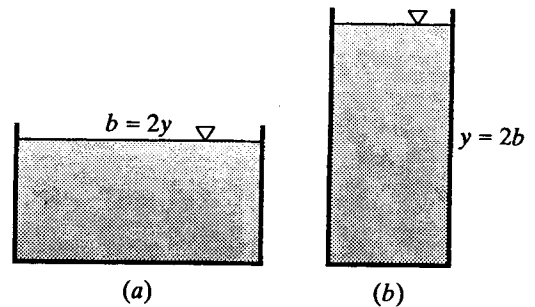

Figure X10.6.2
10.6.2 A rectangular flume of planed timber ($n = 0.012$) slopes 0.5 ft per 1000 ft. (a) Compute the rate of discharge if the width is 7 ft and the depth of water is 3.5 ft (Fig. X10.6.2). (b) What would be the rate of discharge if the width were 3.5 ft and the depth of water 7 ft? (c) Which of the two forms would have the greater capacity and which would require less lumber?